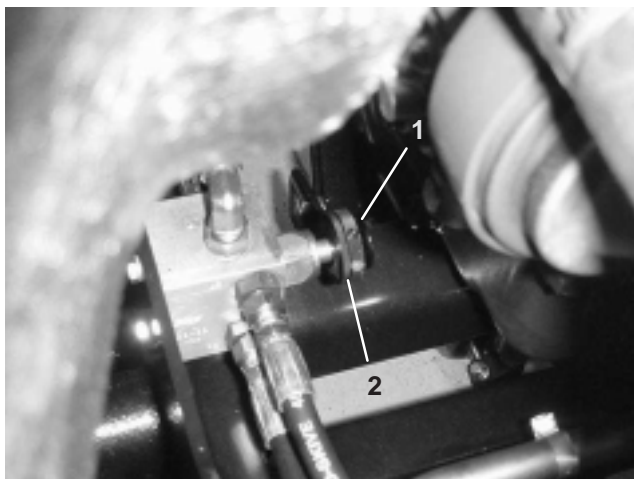

Figure 9
1. Locate valve in front of rear axle for rear cutting units (Fig. 9).
2. Loosen locking ring securing knob (Fig. 9).